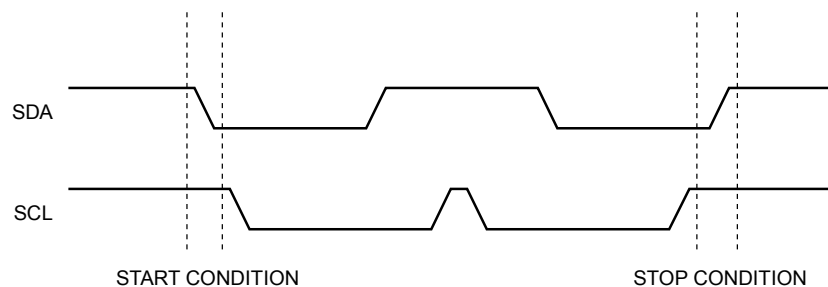

Figure 2. Start/Stop Timing
- (1) Data transfer may be initiated only when the bus is not busy.
- (2) During a data transfer, the data line must remain stable whenever the clock line is high. Any changes in the data line while the clock line is high will be interpreted as a START or STOP condition (Figure 2).